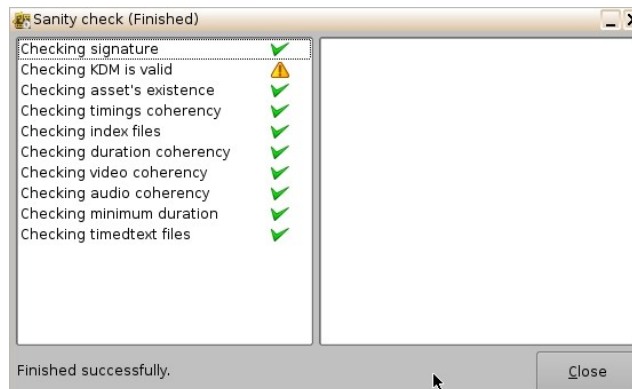

Figure 60: Sanity Check Window
- Once the test is complete, click the Close button (Figure 60).